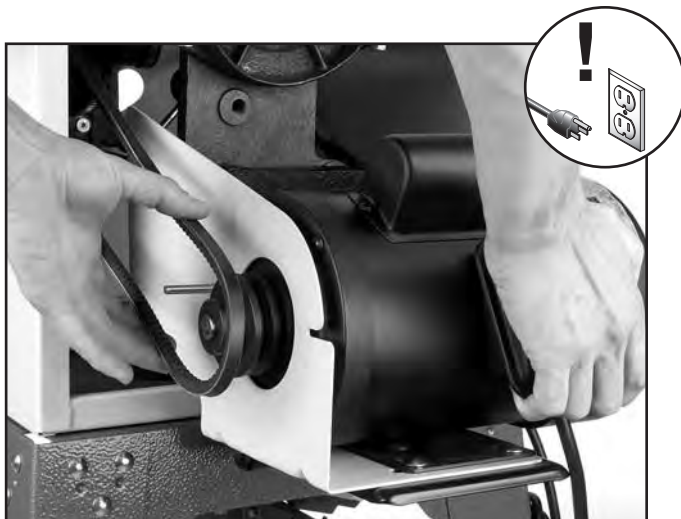

Figure 21. V-belt installation.
- Raise the motor assembly and slip the V-belt over the motor and arbor pulleys (**Figure 21**). Lower the motor assembly to tension the V-belt.